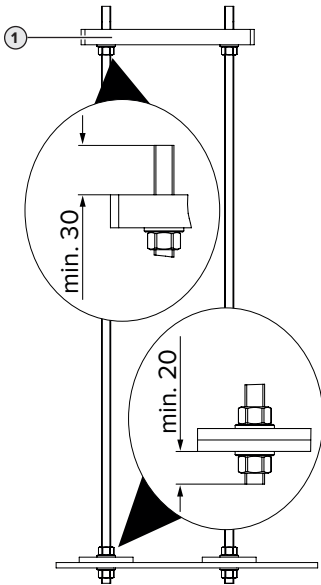

Fig. 3: Position of the washers and nuts [mm]
- Secure each flat steel bar with a nut and a washer, taking into account the Fig. 3. Make sure that the foundation fixing set is level.
- Mount the associated foundation or adapter plate (1) (available as an accessory), taking into account the Fig. 3 on the foundation fixing set.